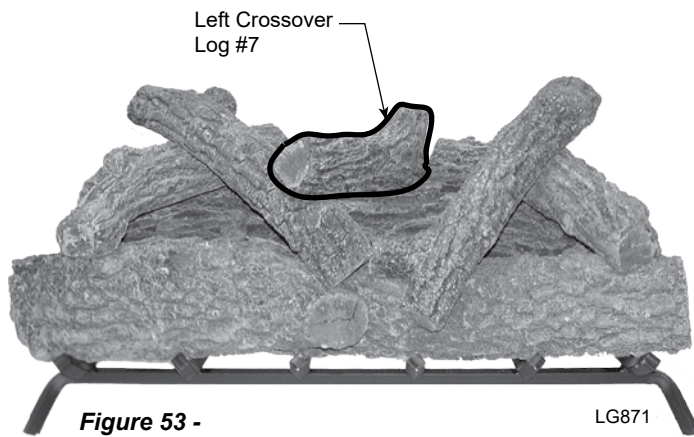

**Figure 51 -
3. Position Right/Left Middle Log #4 on top right of Log #1 and Log #2. *Figure 51*
4. Place Right/Left Middle Log #4 on top left of Log #1 and Log #2. *Figure 51*